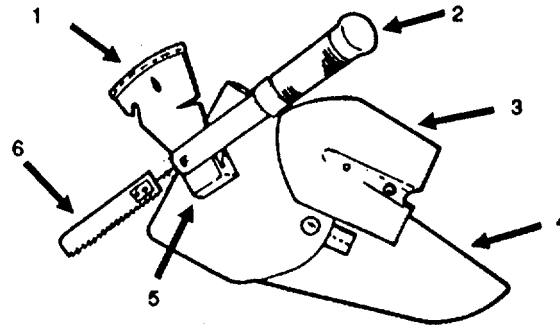

Figure 2-44. Multi-Purpose Survival Tool
- v. Multi-Purpose Survival Tool. The multi-purpose survival tool (See Figure 2-44) has an ax head (1), hollow handle (2), shovel (3), carrying case (4), hammer head (5), and saw blade (6). The carrying case (4) may be attached to a belt for convenience.